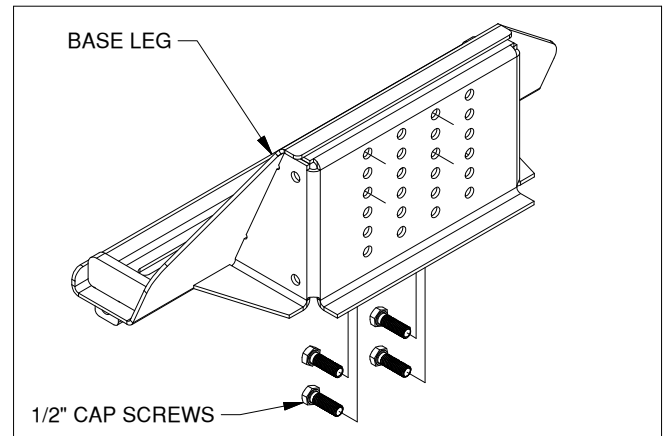

Figure A2: View of base leg.
2. Locate both base legs and eight 1/2" cap screws. Identify the mounting holes needed to mount the arms in their optimal location. Pass four 1/2" cap screws through the bottom of the base into the bolt plate, as shown in Figure A2.